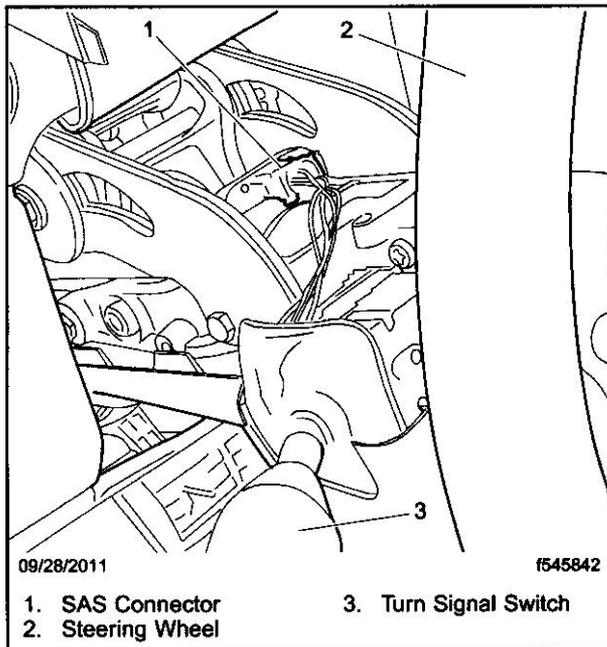

Fig. 3, SAS Connection (Cascadia and Columbia)
- 8.1 On Cascadia and Columbia vehicles, tilt the steering column to its lowest position, then remove the upper steering column cover to access the SAS. See Fig. 3.